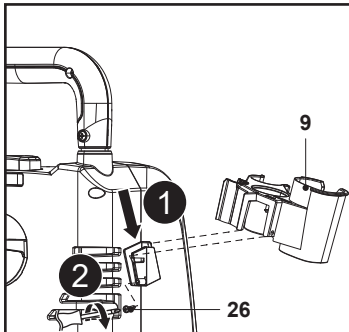

Fig. 1
1. Slide the suspension bracket (9) onto its rest and align the mounting holes, then use a suitable cross-head screwdriver (not supplied) to secure the connection with the screw (ST3.5 x 13) (25) (Fig. 1).